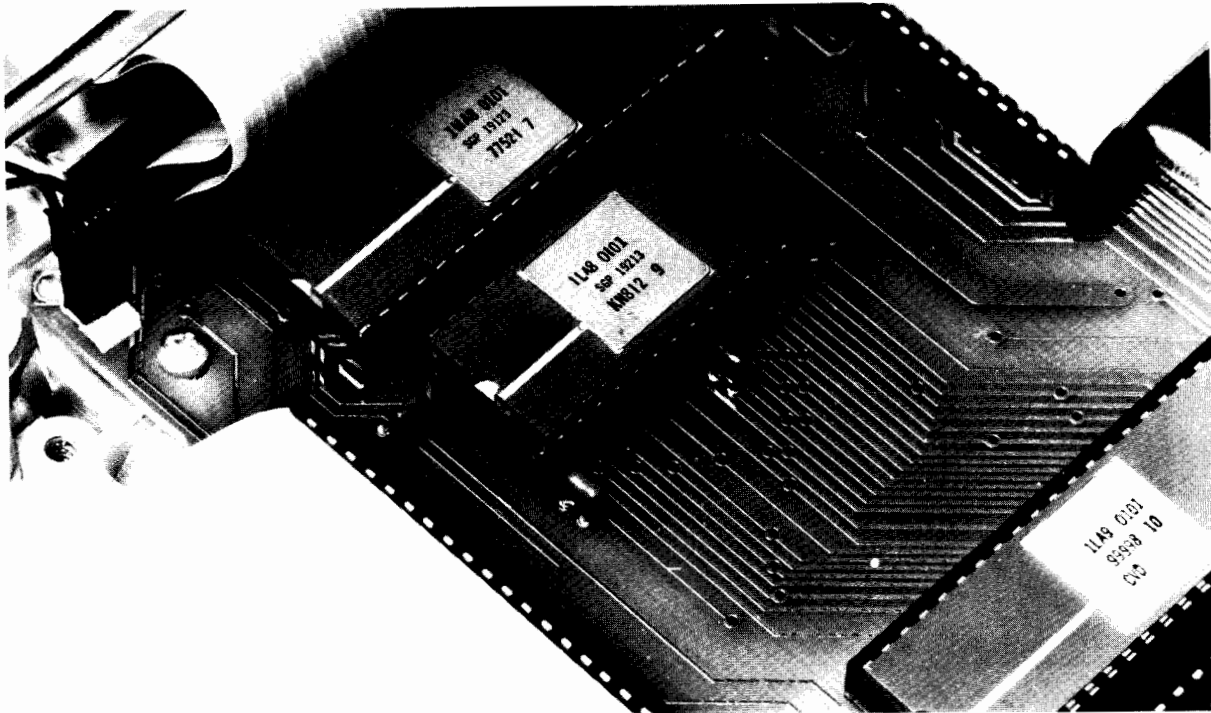

Figure 2-4. Positioning IC for Insertion
- a. Position the IC over the socket so that the semicircle in the top end of the IC is pointing in the same direction as the semicircle in the socket. (See figure 2-4.)